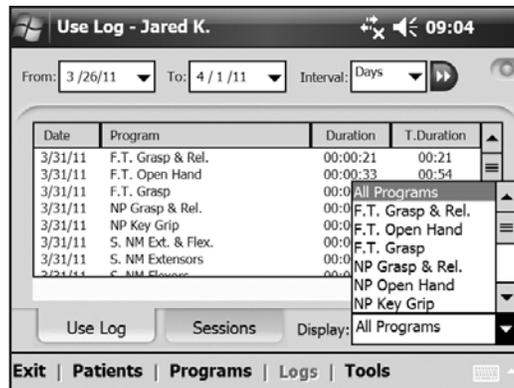

Figure 8-40: Use Log, all programs.
2. Press the **Use Log tab**. The Use Log will open. See Figure 8-40.